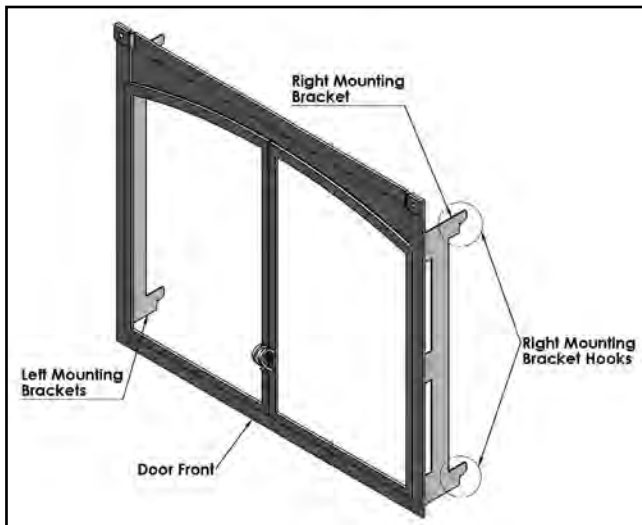

Figure 91: Optional Front Parts.
Optional front is available for your fireplace. The fireplace front hang onto the front of your fireplace using four (4) hooks, one on each corner (refer to Figure 91). These hooks secure the front to the fireplace, providing for easy removal for service access to the fireplace and also to position the front the proper distance away from the glass door and the fireplace facing.